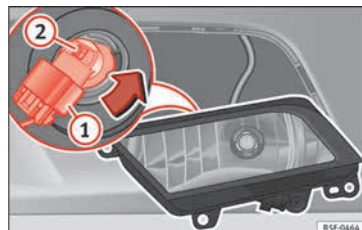

Fig. 107 Front fog light.
- Remove connector » Fig. 107 ① from the bulb.
- Turn the bulb holder » Fig. 107 ② to the left and pull.